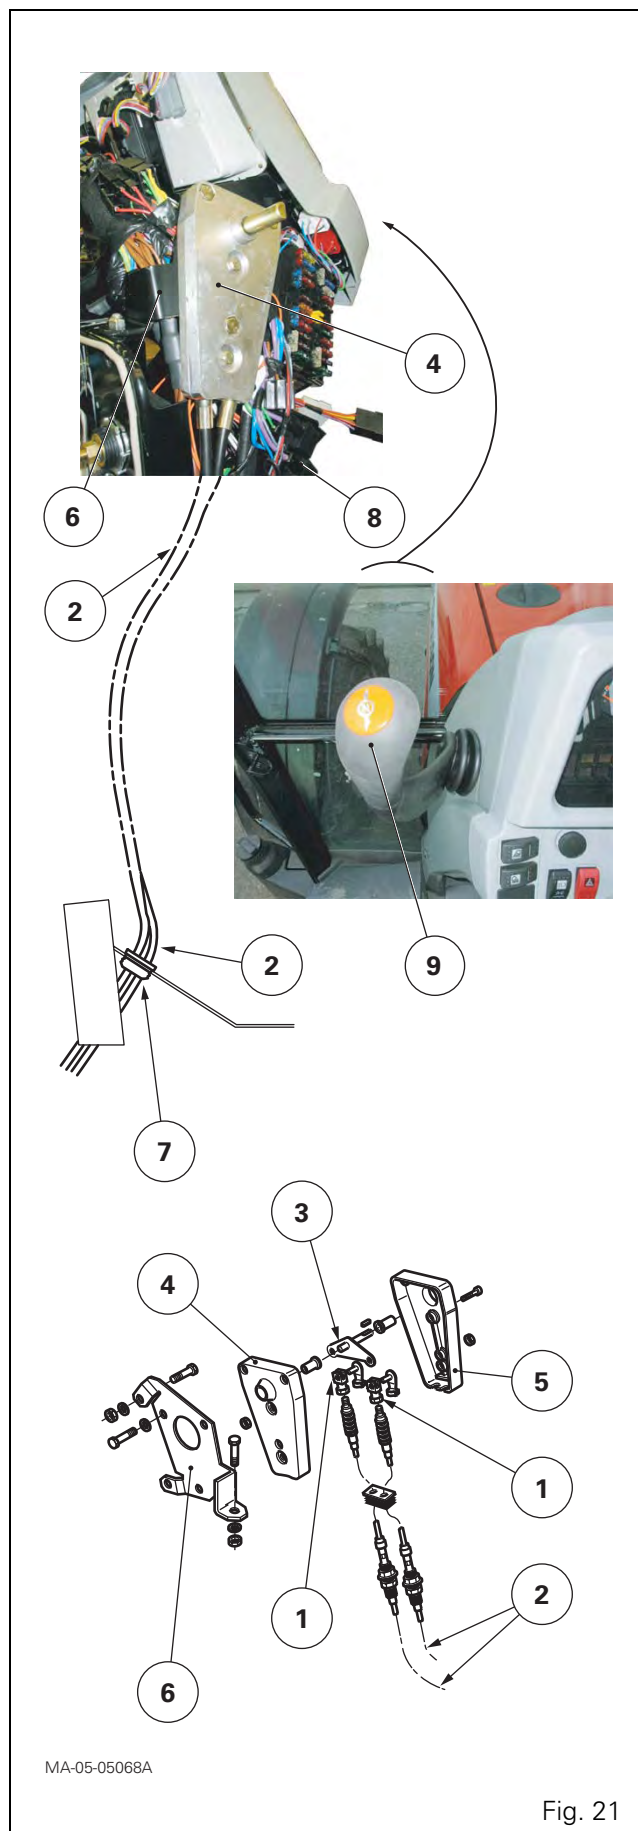

Fig. 21
NOTE: The assembled unit (4) and cables (2) (Fig. 21) are entered in the catalogue as a complete assembly under a single reference. However, this assembly comprises a number of parts, most of which are available as spare parts.
Preparation (Fig. 21)
Assembly (Fig. 21)